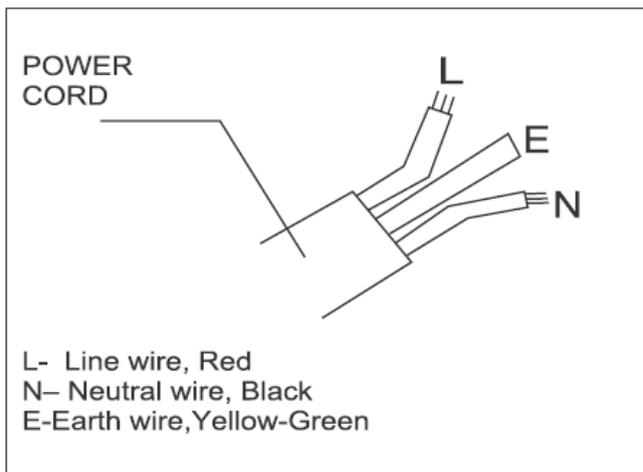

Fig. 1
- Power cord conductors are distinguished according to color as follows (Shown in Fig. 1).
- For user safety and protection , this unit is earthed through the power cord (Shown In Fig. 1) Please contact the manufacturer or its service dealer or a similarly qualified person if you want to replace it.